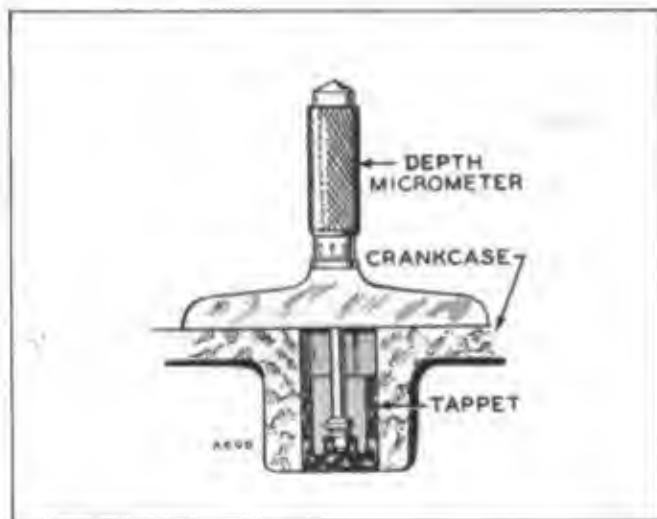

Figure 30. Depth Micrometer
1. Install pump tappet in its recess and position fly-wheel on the port closing mark (PC) of the compression stroke.
2. Using a depth micrometer, measure the distance from the pump mounting pad on the crankcase to the tappet center (Fig. 30).